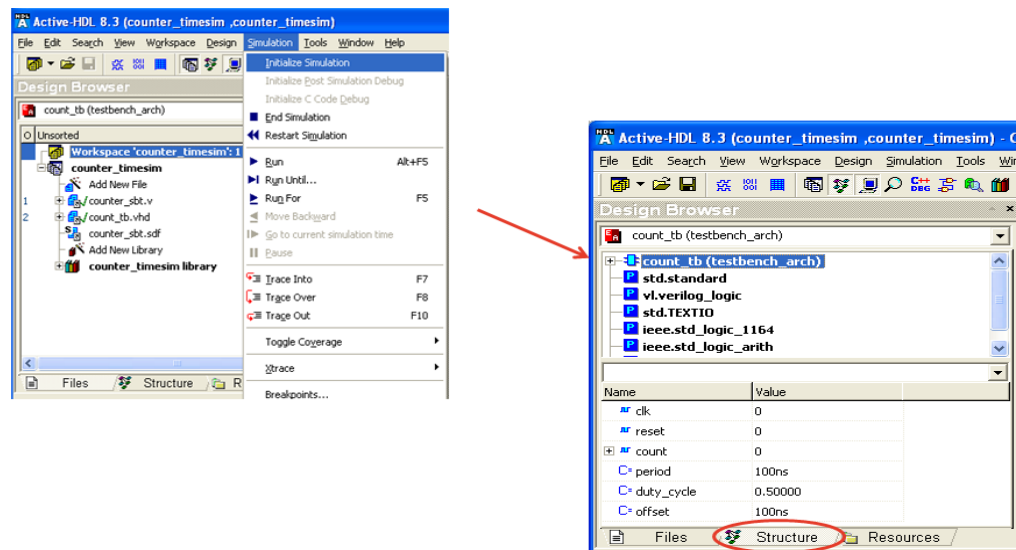

Figure 10-22 : Initialize Simulation
10. Select Simulation > Initialize Simulation. After Initialization, the “Design Browser” view will be changed from “file” view to “Structure” view as shown in Figure 10-22.